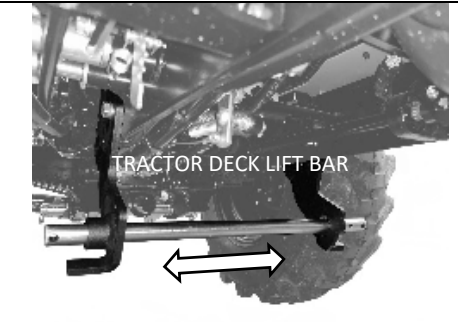

Figure 5A
4. Insert the Tractor Deck Lift Bar (Item 8) into both bracket bushings (figure 5A).